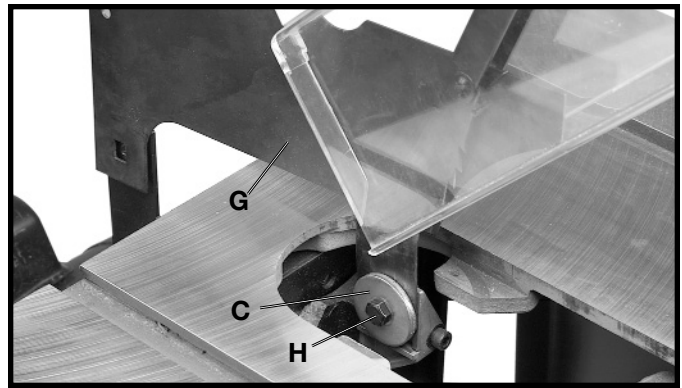

Fig. 33
8. Assemble the blade guard and splitter assembly (G) Fig. 33, between the large washer (C) and the splitter bracket and tighten screw (H) with wrench supplied.